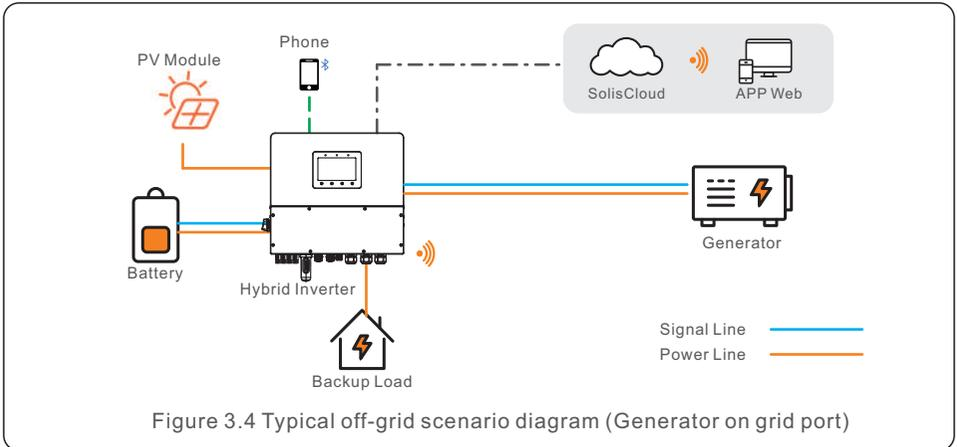

Figure 3.4 Typical off-grid scenario diagram (Generator on grid port)
- If the generator is connected through an grid port on the grid side(Figure 3.4), then CT or smart meter is required.